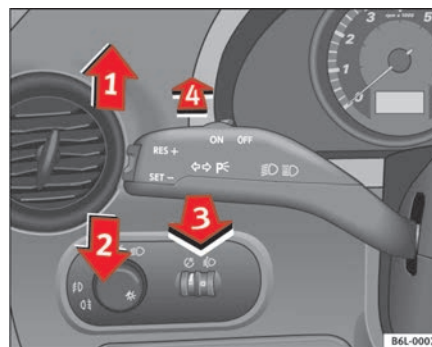

Fig. 60 Turn signal and main beam headlight lever
- Move the lever all the way up  $\Rightarrow$  fig. 60 **1** to indicate **right**, and all the way down **2** to indicate **left**.
- Press the lever forward  $\Rightarrow$  page 92, fig. 60  to switch on the main beams.